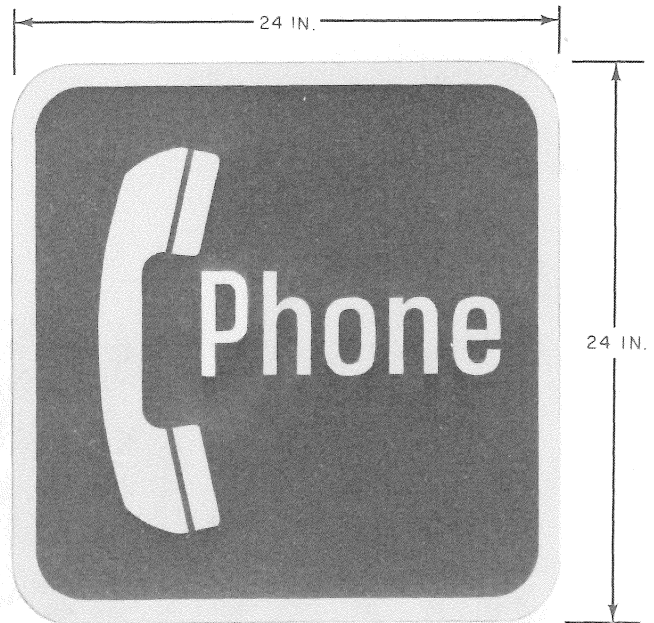

Fig. 5—KS-20065, List 6 Sign
- (a) KS-20065, List 6 (Fig. 5):